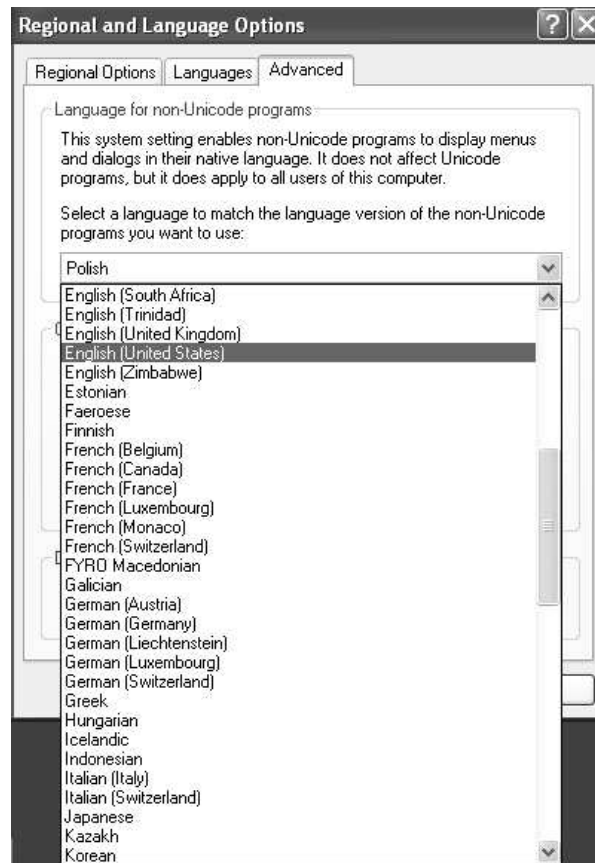

Figure 29. Regional and Language Options, Advanced Tab: Language for Non-Unicode Programs Dialog
4. In the *Language for non-Unicode Programs* section, click on the drop-down menu arrow and select **English (United States)** as shown in Figure 29. If your computer is already configured for English (United States) as the Language for non-Unicode Programs, skip to Step 6.